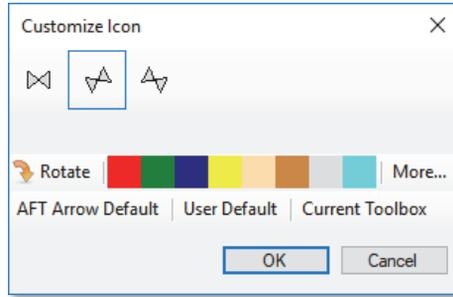

Figure 3.19 Right click on the junction to open the **Customize Icon** window and select the preferred icon and rotation
4. You will notice that placing junctions onto the Workspace follows the usual rules, however, the visual appearance of the icons can be more complex than on a 2D grid. Due to the increased number of axes, the preferred icon and rotation can be selected to obtain visual consistency. Right click on J7 and select Customize Icon. Select the icon shown in Figure 3.19.